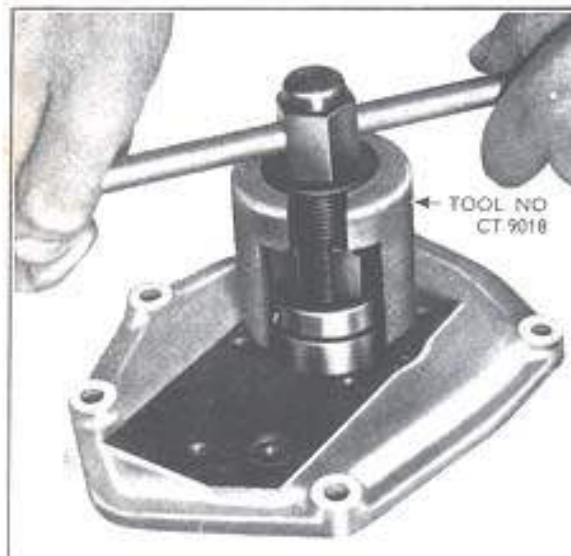

Fig. 14
24. Remove the camshaft bearing outer races from both the bearing housings using the puller (tool No. CT.9018), as shown in Fig. 14.